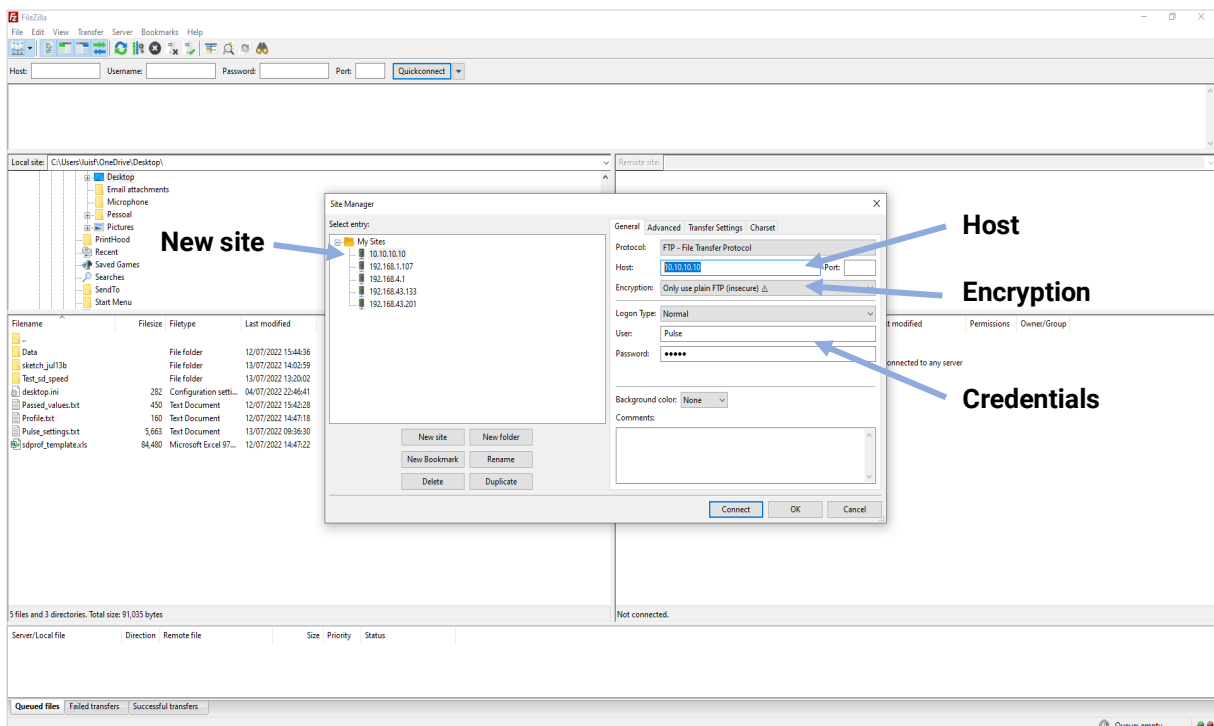

Fig. 4: Creating a new connection in FileZilla interface.
3. On FileZilla, click on the '**Open the Site Manager**' button on the top left (**Fig. 4**).